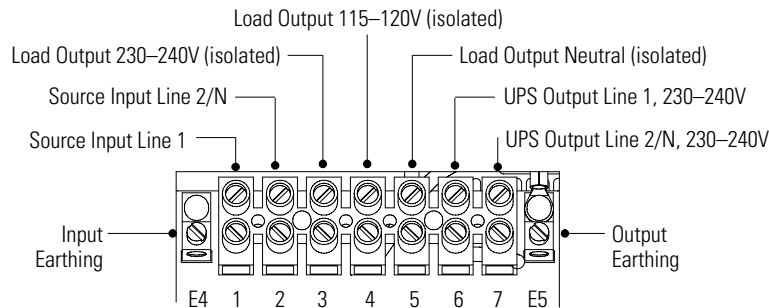

Figure 12. PPDM EURO HW Model Terminal Block
- For the PPDM EURO HW model, see Figure 12 and Table 2.